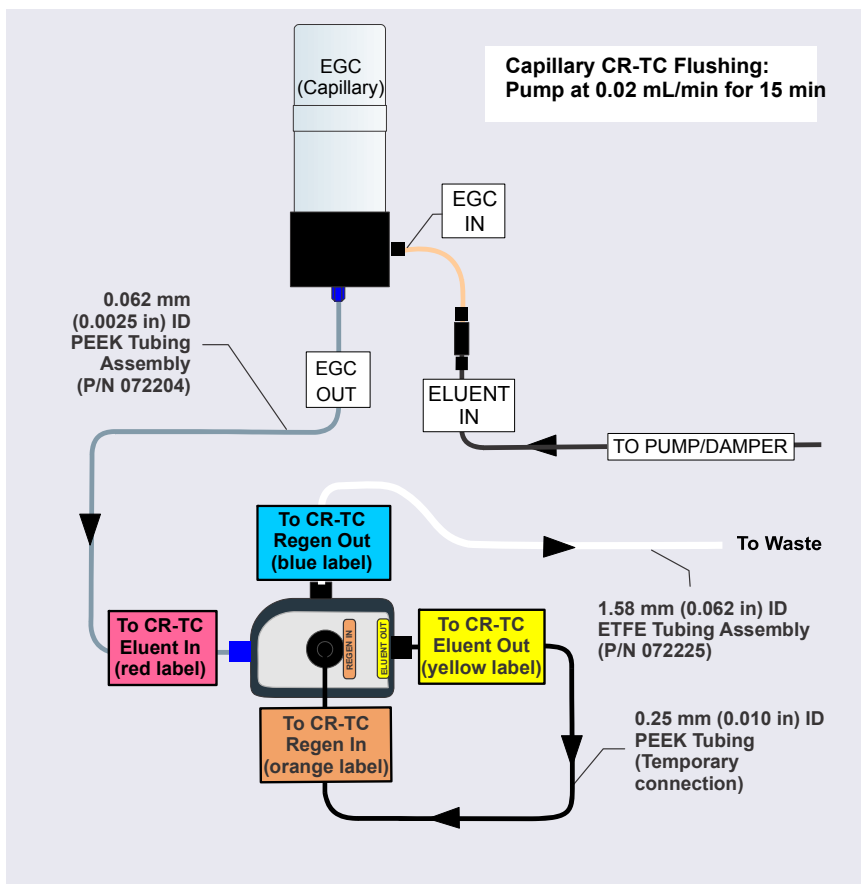

Figure 9-27. Plumbing for Hydrating a Capillary Dionex CR-TC
- a. Connect a piece of 0.25 mm (0.010 in) ID PEEK tubing between the **ELUENT OUT** and **REGEN IN** ports of the Dionex CR-TC (see Figure 9-27). (This is a temporary connection.)